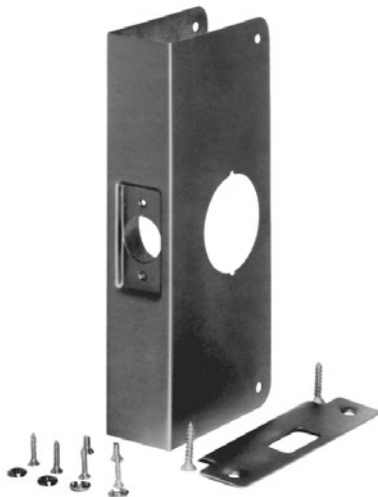

Figure 13.134 Install-A-Lock lock changing kit component parts. (M.A.G. Engineering and Mfg., Inc.)
M.A.G. Engineering and Mfg. Co. has spent many years perfecting these units. Because of the ever-increasing need for upgraded security in today's society, these products are widely used and beneficial to all. Figure 13.134 shows just one type of the Install-A-Lock lock changing kits available.